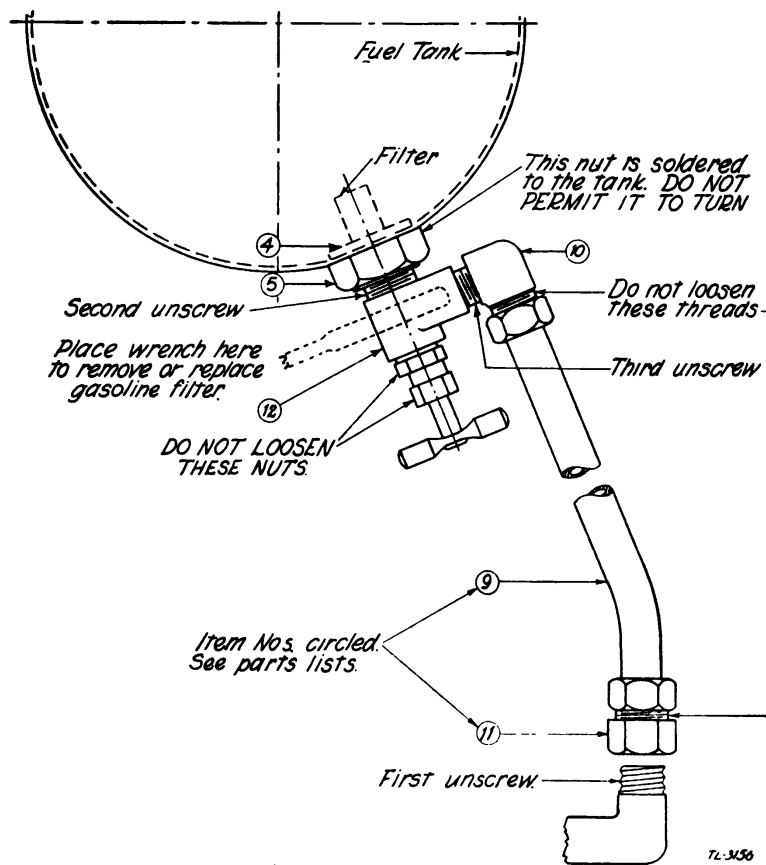

FIGURE 15.—Fuel line assembly.
b. Removal and replacement.—If the fuel line is assembled as shown in figure 15, certain threads and nuts *must not* be loosened, otherwise the fuel line will be damaged beyond repair. These particular threads and nuts are distinctly labeled in figure 15. If, however, the fuel line is one of the several equipped with union type couplings attached to the rubber tube by means of a metal ferrule, the union nuts may be unscrewed and the fuel line removed without removing any other parts. Careful examination, while keeping the details of figure 15
(2) *Reel units equipped with Briggs and Stratton engines.*—Generally, reel units equipped with Briggs and Stratton engines are equipped with a fuel line having union type couplings which may be unscrewed, permitting the fuel line to be removed directly. However, since a variation from the general case is quite probable, and in the event a unit is equipped with a fuel line as shown in figure 15, the same threads and nuts as are labeled in figure 15 *must not* be loosened. Since the carburetor is of a different design, the procedure to remove the fuel line must be varied. Proceed as follows: Remove the air cleaner and air-cleaner pipe from the carburetor. Remove the carburetor from the intake elbow and then unscrew the carburetor from the fuel line. Unscrew the fuel line and the filter as an integral unit from the fuel tank (see (3) below). To replace or install a new fuel line, reverse the order of the procedure described above.
(3) *Filter.*—All reel units procured on orders dated 1939, and later, are equipped with a Zenith gasoline filter screwed into the fuel tank. This filter includes a valve as shown in figure 15. Due to the physical construction of the filter and the fuel tank, it is impossible to unscrew the fuel line from the filter in place without loosening prohibited connections if the fuel line is as shown in figure 15. Therefore, after the carburetor has been removed from the end of the fuel line it becomes necessary, in order to dismantle the fuel line farther, to unscrew the filter from the fuel tank. This must be done by placing a wrench on the body of the filter unit and turning in a counterclockwise direction. The large nut adjacent to the fuel tank (fig. 15) *must not* be turned or *permitted* to turn when removing the filter. If the filter unit is tight, requiring considerable force to loosen, it is well to hold the large nut with a second wrench to prevent breaking the soldered joint between the nut and the fuel tank.